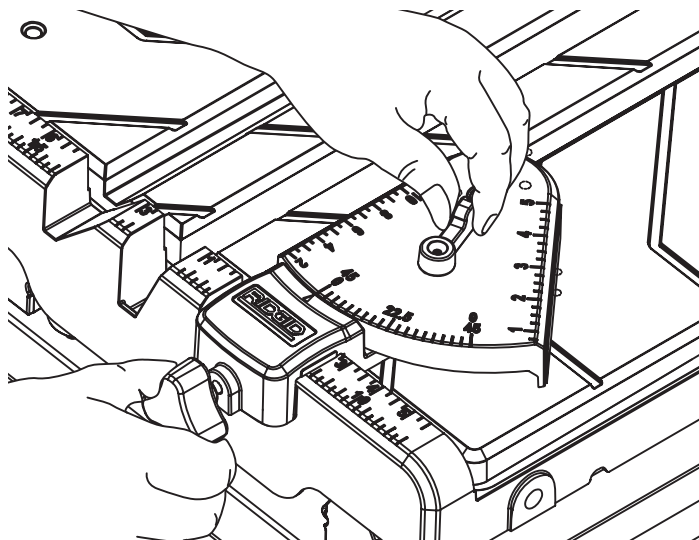

Fig. 34
2. Adjust the universal guide so that the desired angle (0° - 45°) aligns with the indicator arrow (Fig. 34). Tighten the lever to lock the universal guide at the desired angle.